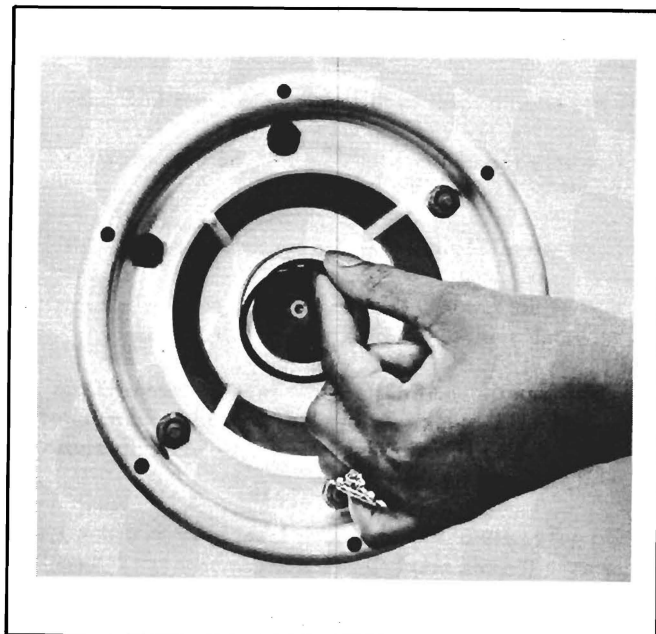

Figure 31. Removing "O" Ring
2. With your thumb and index finger, squeeze the "O" ring, which secures the filter in place, with a sliding motion so that the ring stretches in one direction, forming a gap between the ring and the hub. Remove the ring from the hub. (See Figure 31.)